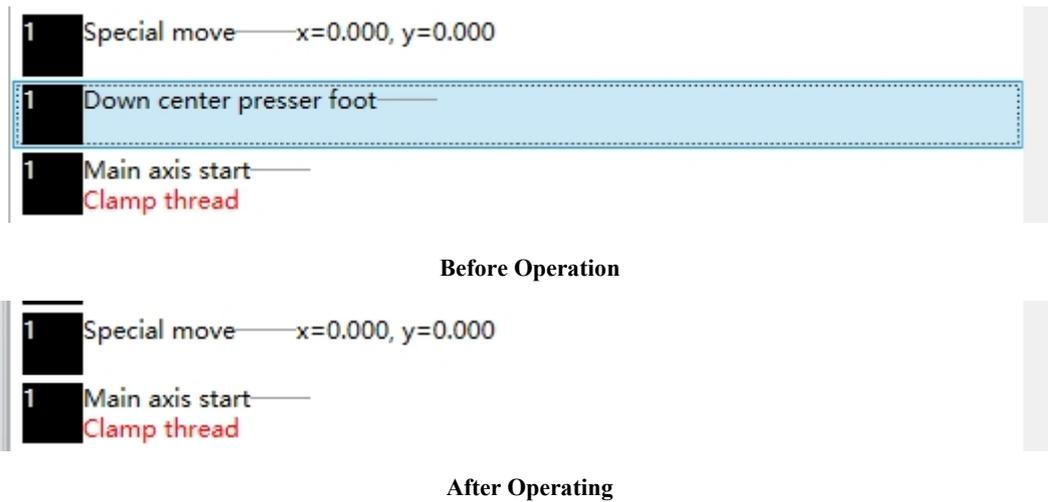

Fig. 5.7.4b Schematic Diagram of the Operation of Deleting Command Segments
② Click the "🗑️" button, and the selected command segment will be deleted. As shown in Fig. 5.7.4b below.